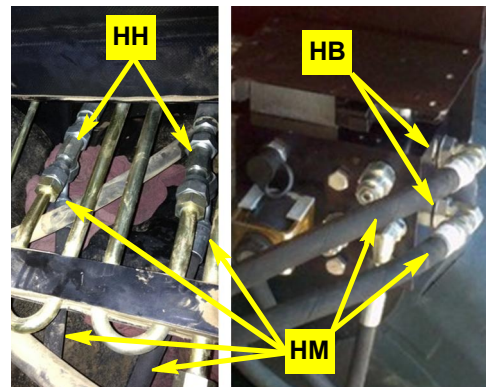

Figure 3c: Steering hoses at run-tees (left) and steering block (right)
- c. Routing them over the rear axle and transmission and under the cab, install steering hoses HM between the stems of run-tees HH (Figure 3c, left) and fittings HB in the A and B ports of the hydraulic steering block (figure 3c, right). Use ties HP (not shown) as required, securing the hoses to other machine plumbing and clear of moving parts.